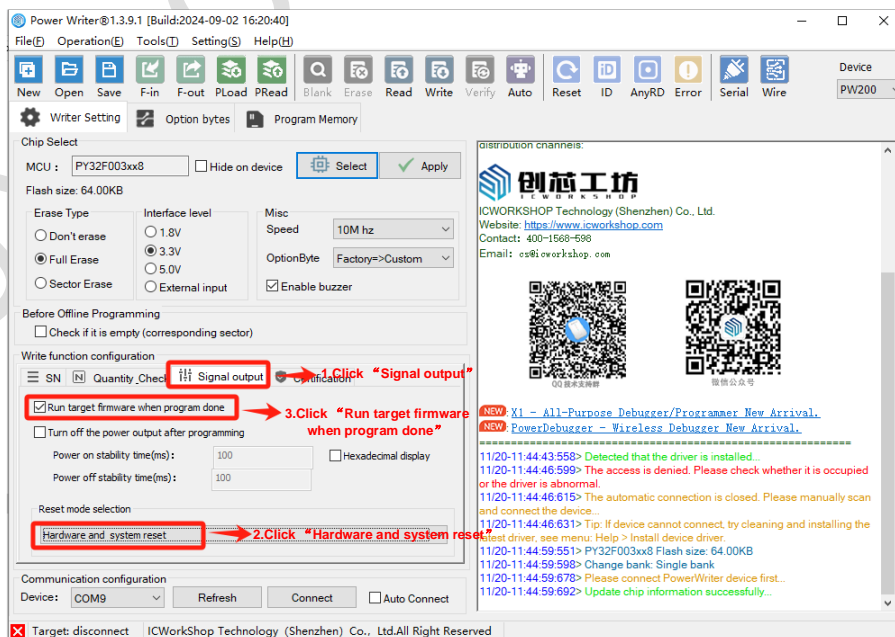
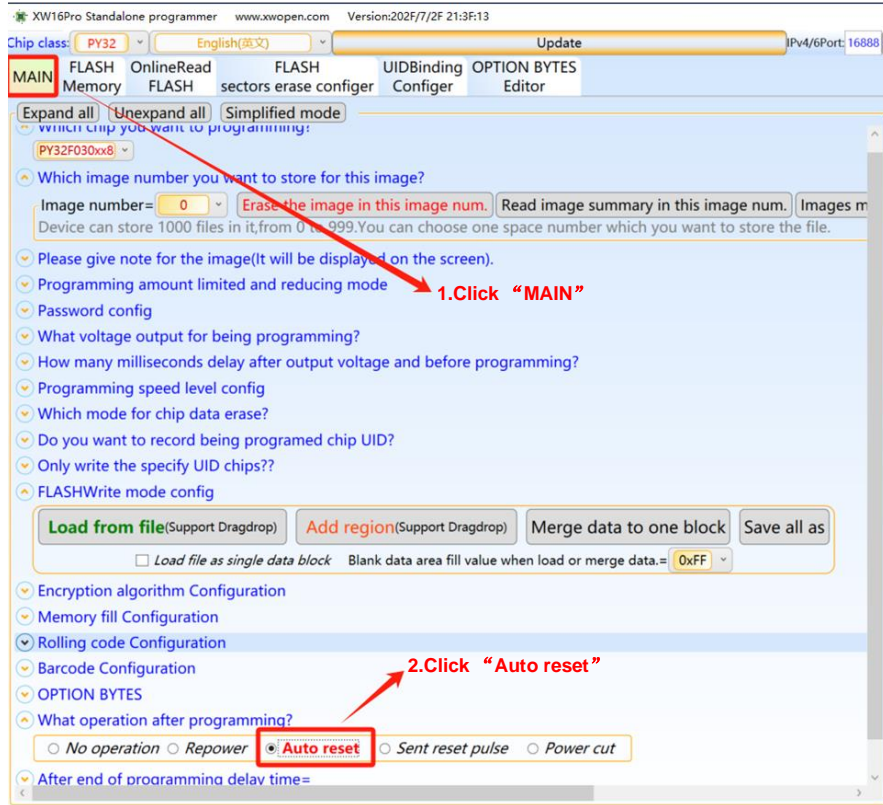

Figure 13-3 Power Write Operation Tick 'Reboot Chip After Programming'
Figure 13-4 XW Operation 'Smart Reset'
- When configuring the Option of the programmer, you need to check the "Smart Reset" function or "Restart the chip after programming" (programmers typically have similar options that need to be selected). The specific steps are shown in Figures 13-3, Figure 13-4.